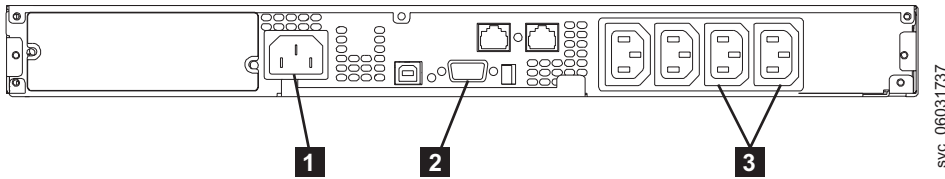

Figure 16. 2145 UPS-1U (rear view)
7. At the back of the 2145 UPS-1U, plug the 2145 UPS-1U main-power connector into the power socket. The power socket is shown by **1** in Figure 16 on page 20. The 2145 UPS-1U is in standby mode; so all indicators are off. Connect each 2145 UPS-1U for an I/O group to a different power source.